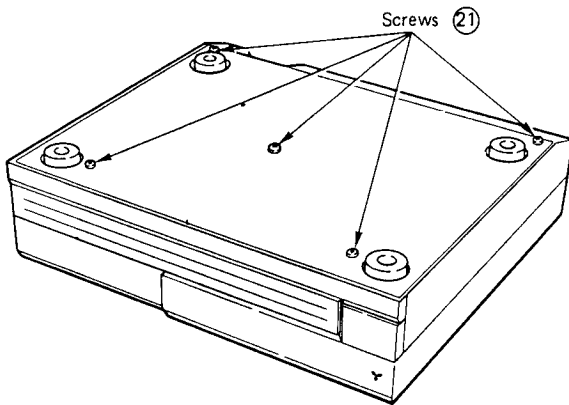

Fig. 16
- 1) As shown in Fig. 16, the bottom cover can be removed by removing the five bottom cover screws (21).